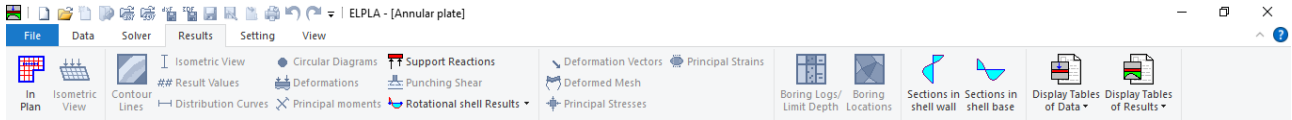

Figure 2.27 "Results" Tab
*ELPLA* can display and print a wide variety of results in graphics, diagrams or tables through the "Results" Tab. To view the data and results of a problem that has already been defined and analyzed graphically, switch to "Results" Tab (Figure 2.27).